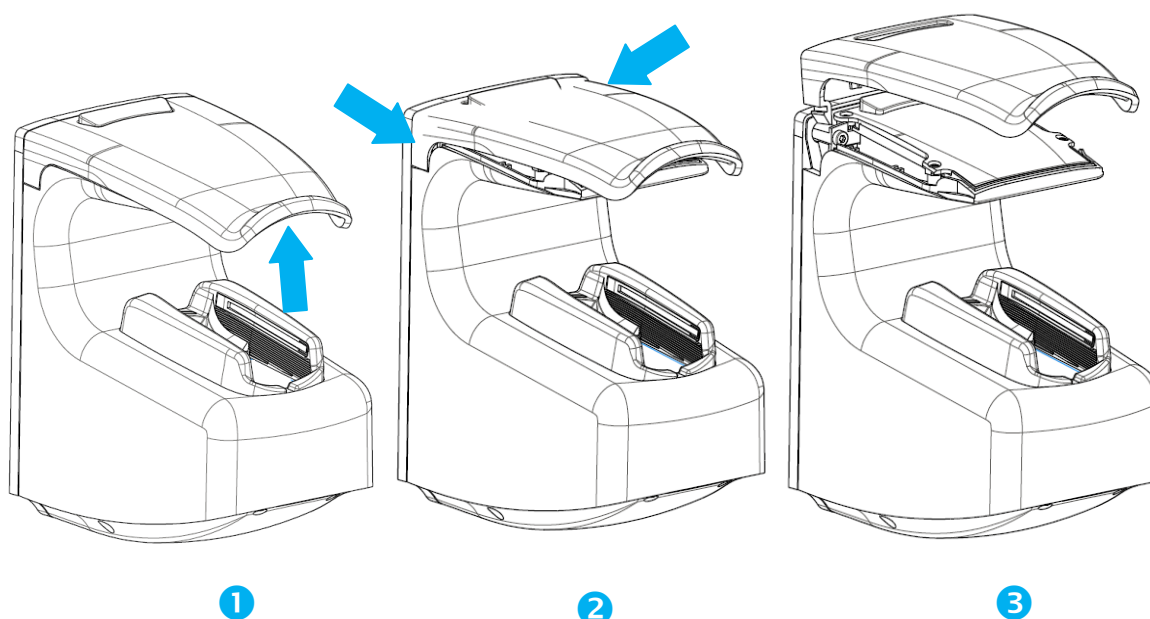
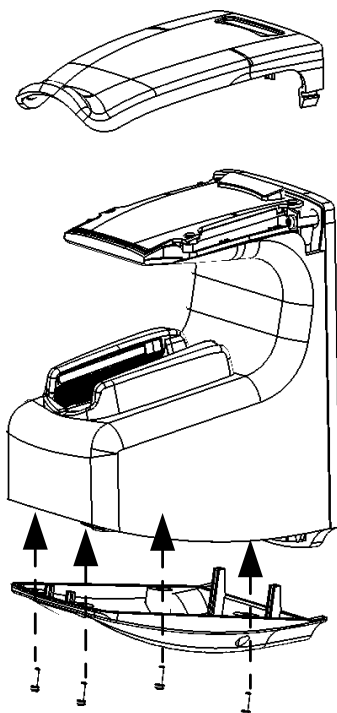

Figure 6: Removing the top cover
Figure 10: Assembling top and bottom covers
- Remove the bottom cover from the terminal (with its gasket), the top cover (see Figure 6: Removing the top cover for how to unclip it) and the wall plate. Keep these elements at hand.
Clip the top cover (see Figure 6: Removing the top cover, following steps 1 to 3 in reverse, and Figure 10: Assembling top and bottom covers).
Screw on the bottom cover (see Figure 10: Assembling top and bottom covers1), using the four K2.5 x 8 screws.